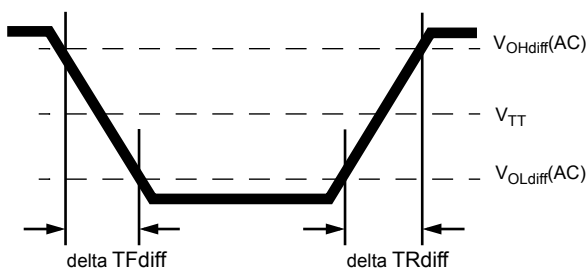

Figure 18. Differential Output Slew Rate Definition
With the reference load for timing measurements, output slew rate for falling and rising edges is defined and measured between VOLdiff(AC) and VOHdiff(AC) for differential signals as shown in Table and Figure 18.